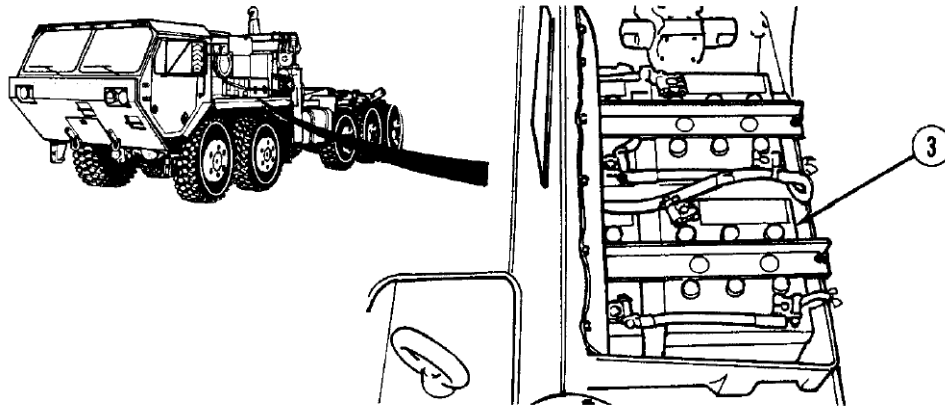

Figure 12. 4 Vehicle Batteries
- 12.1.3.2 Keep batteries (Figure 12. 4. (3)) full of electrolyte, but do not overfill.